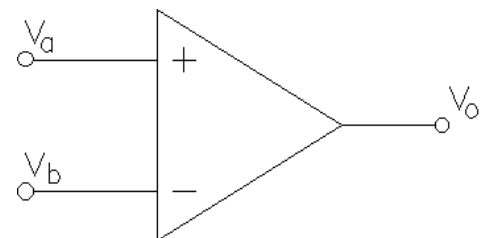

Figure 1 Op-amp symbol
1. An op-amp has *two* inputs and it amplifies the *voltage difference* between those two inputs. These two inputs are known as the noninverting input, labeled (+), and the inverting input, labeled (-), as shown in Fig. 1. The output voltage is a function of the noninverting input voltage minus the inverting input voltage.